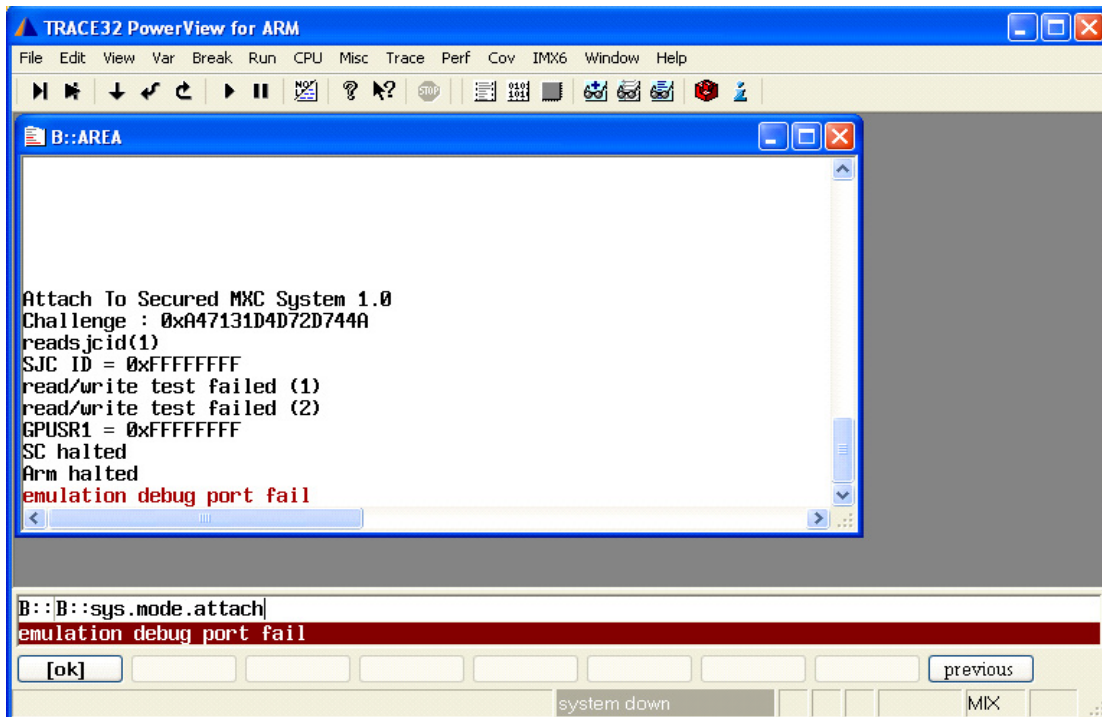

Figure 3. Failure to attach over Secure JTAG
- In order to ensure that i.MX 6 series SJC is operating in secure mode, edit the “*calculateresponse.cmm*” file and provide an incorrect response key. Re-run the attach script “*attachimx.cmm*”. The debug tool should fail to attach to the i.MX 6 series target over JTAG. The screen shot in Figure 3 shows a failure to attach over Secure JTAG: